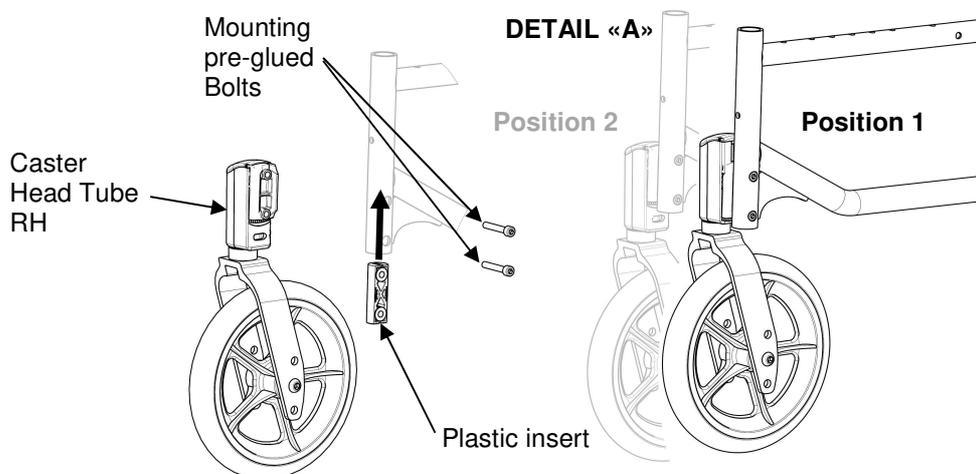

FIGURE 5.11 Adjusting Castor Assembly Position
NOTE: For this procedure, refer to FIGURE 5.11.
2. Move the castor head tube assembly to one of two positions. Refer to Detail “A” of FIGURE 5.11. Always check that the plastic insert is present before tightening the mounting screws.